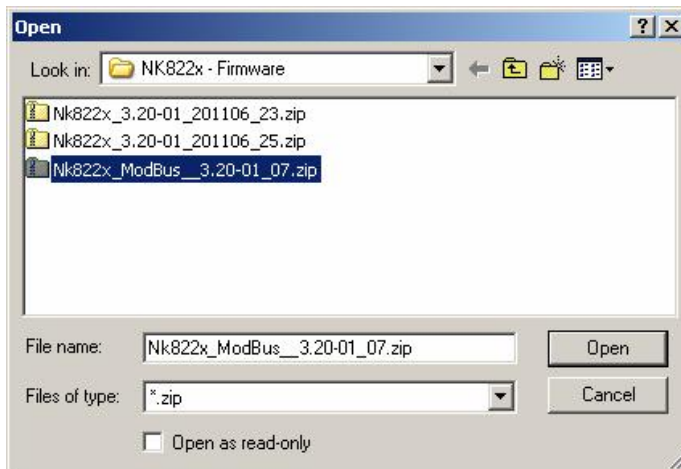

Fig. 17 Opening the new NK822x firmware files
- And finally click 'Open' (Fig. 17).
In case multiple add-on packages have been installed, then all the associated firmware files can be safely downloaded in sequence (each of them being a single additional DLL) as long as the base NK822x version is the same (e.g. “...3.20...”). Please check the firmware version in the firmware list (Fig. 17) before selecting the file to download. Also, get informed about latest compatibility issues in the most recent NK8000 Release Notes.